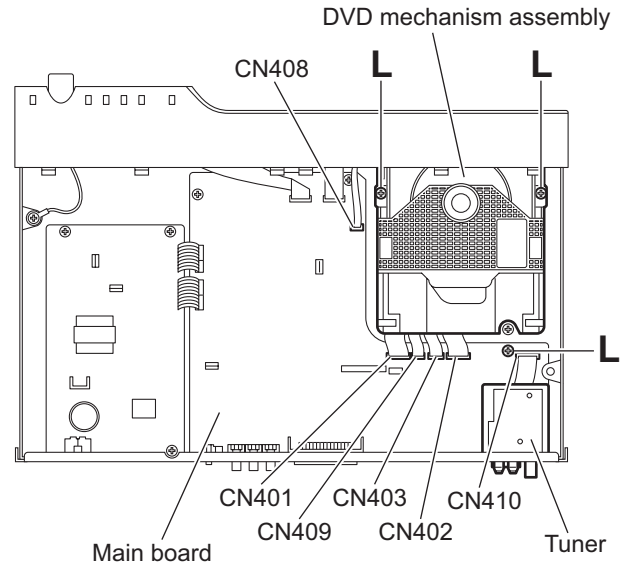

Fig.10
3.1.7 Removing the power board (See Figs.10 and 11)
- (1) From the back side of the main body, remove the screw **M** attaching the power board to the rear panel. (See Fig.10)